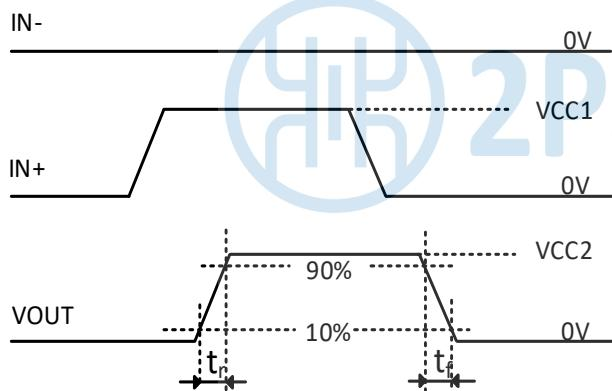
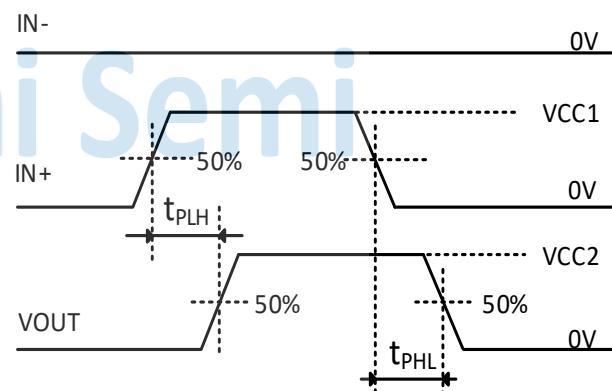

Figure 20. Transition time waveform measurement
Figure 21. Propagation delay time waveform measurement
(1) t_{PLH} = low-to-high propagation delay time, t_{PHL} = high-to-low propagation delay time. See Figure21.(2) t means is the time from 10% amplitude to 90% amplitude of the rising edge of the signal, t_r means is the time from 90% amplitude to 10% amplitude of the falling edge of the signal. See Figure20.